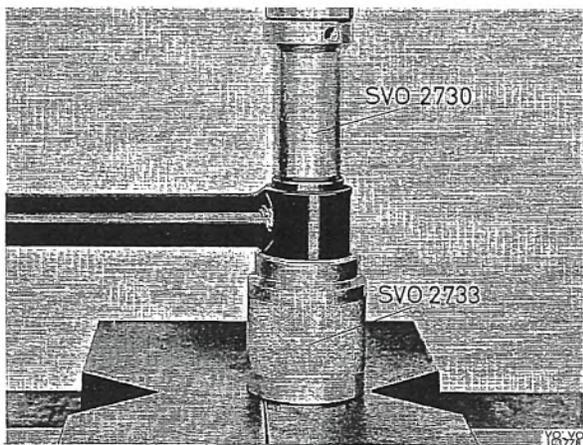

Fig. 7-12. Fitting front bush on torque rod
6. Press out the front bush with 2730, and with 2733 as a counterhold (see Fig. 7-12).